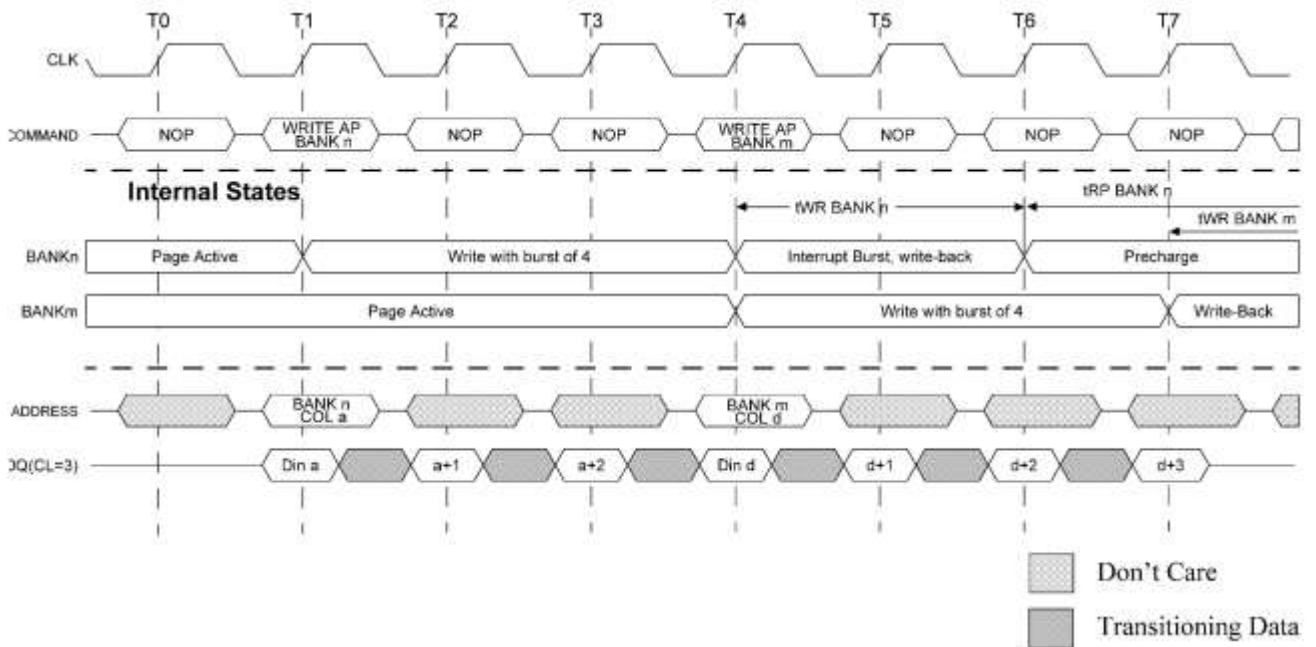

Figure 30: WRITE with Auto Precharge Interrupted by a WRITE
Interrupted by a WRITE (with or without auto precharge): A WRITE to bank  $m$  interrupts a WRITE on bank  $n$  when registered. The PRECHARGE to bank  $n$  begins after  $t_{WR}$  is met, where  $t_{WR}$  begins when the WRITE to bank  $m$  is registered. The last valid data WRITE to bank  $n$  will be data registered one clock prior to a WRITE to bank  $m$  (see Figure 30).
- 17) For a WRITE with auto precharge interrupted by a WRITE (with or without auto precharge), the WRITE to bank  $m$  interrupts the WRITE on bank  $n$  when registered. The PRECHARGE to bank  $n$  begins after tWR is met, where tWR begins when the WRITE to bank  $m$  is registered. The last valid WRITE to bank  $n$  will be data registered one clock prior to the WRITE to bank  $m$  (Figure30).